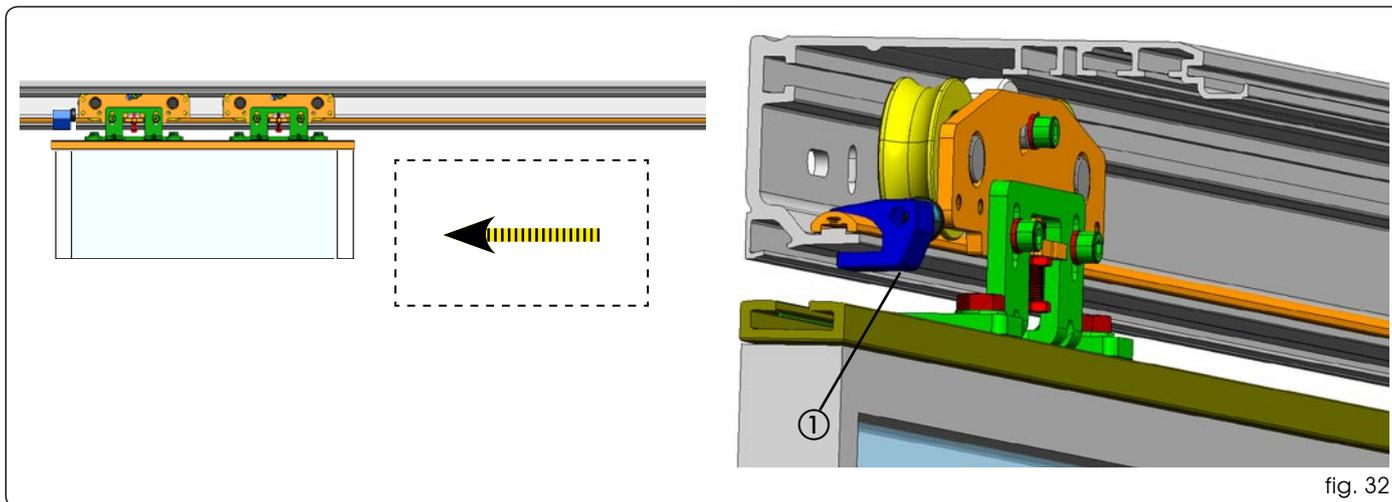

fig. 32
- Take the leaf or leaves into opening position (fig. 32), take the mechanical stop near to the carriage until the two parts touch and tighten the Allen screws (Fig32 ref. ①).